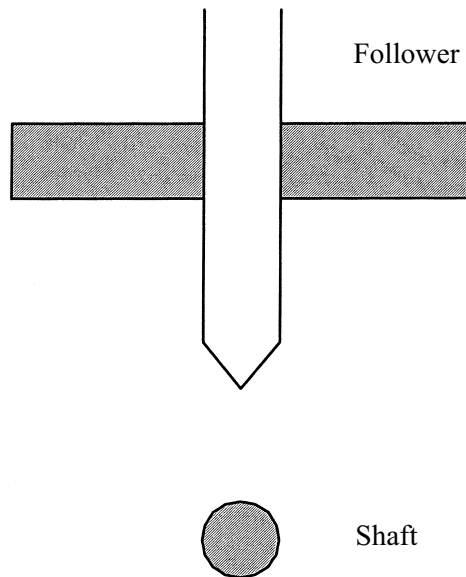

Figure 13
- (a) On **Figure 13** draw a cam profile that will ensure a gradual rise followed by a fast fall. Indicate the direction of rotation.